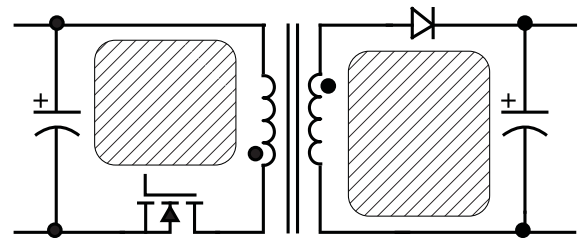

Figure 25. High frequency, high current loops
- The hatched area illustrated in figure 25, where high frequencies and high currents create a loop, should be kept as small as possible.